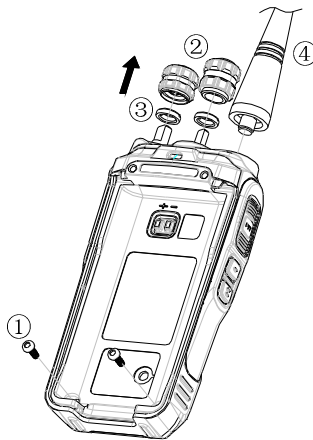

Figure 5
- ① Remove the two screws at the bottom of the radio.
- ② Remove the volume control knob and channel selector knob.
- ③ Remove the two fixing nuts with a special instrument.
- ④ Remove the antenna at the top of the radio. See figure 5.